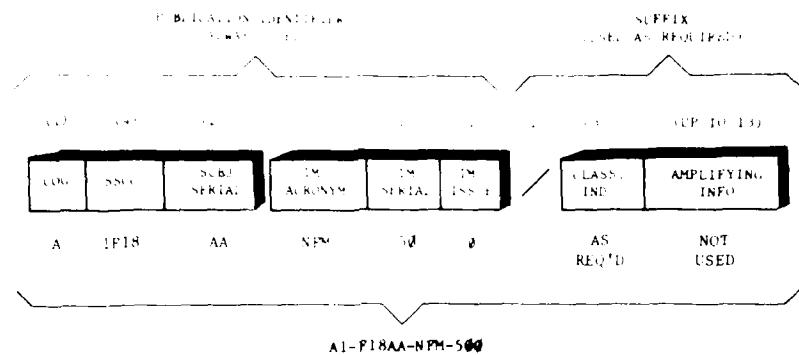

Figure 1-8. TMINS Example (NAVAIR)
4. Insert the derived alphanumeric codes into the proper TMINS format. See Figure 1-8.